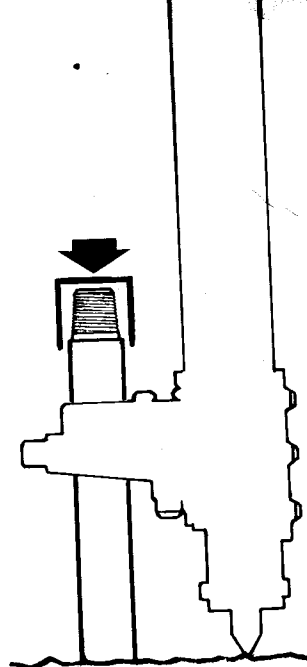

Fig. 18. A simple protection over the end of the tube prevents impurities from falling into the tube string
2. Put a cover or a hood over the upper end of the drill tube when shifting tubes (Fig. 18), so that clumps of cuttings, which come loose from the rotation unit, do not fall down into the tube string.